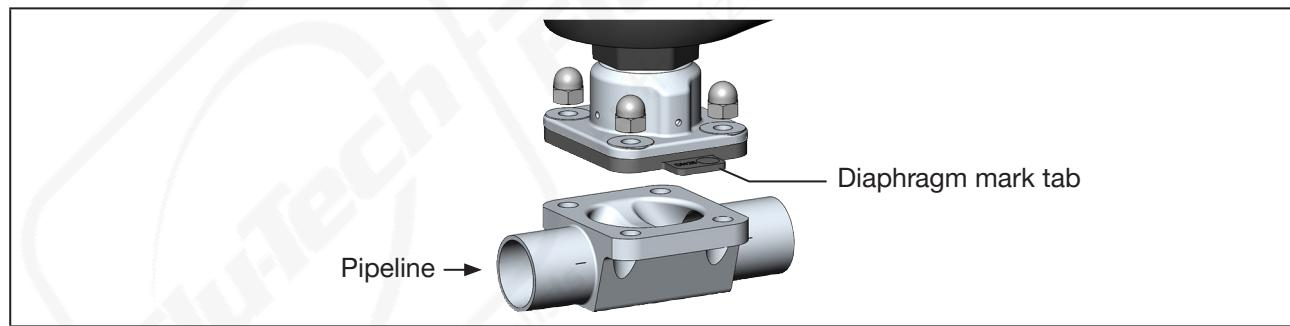

Fig. 25: Aligning the diaphragm (example 2-way body)
→ Align diaphragm. The mark tab of the diaphragm must protrude from the valve body at a right angle to the longitudinal axis of the pipeline (see "Fig. 25").
- Before installing the actuator, check whether the diaphragm is free of damage and correctly aligned. The mark tab of the diaphragm must protrude from the valve body at a right angle to the longitudinal axis of the pipeline (see “Fig. 25”).